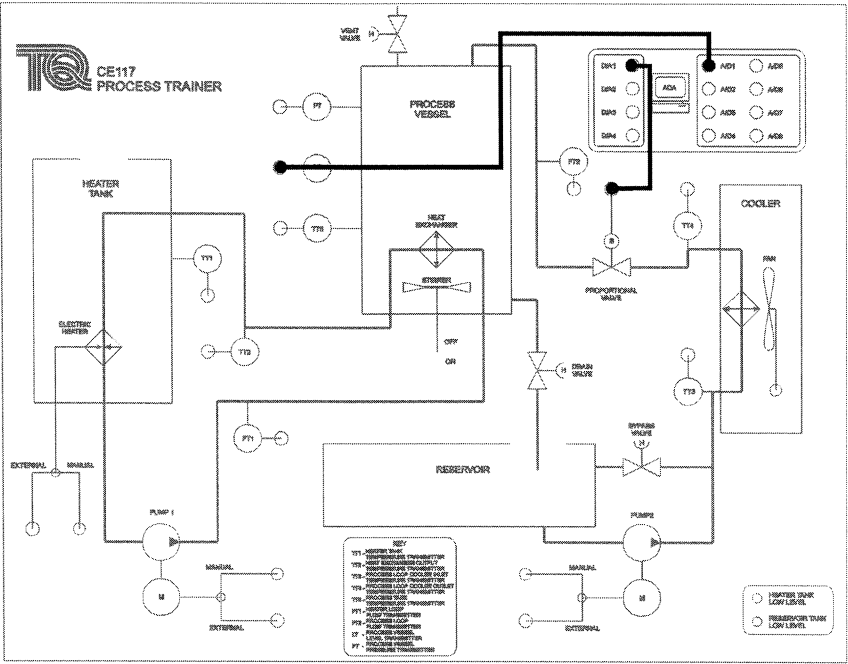

Figure 44 Connections for Experiment 1 Procedure 4
- 3) Connect the CE117 Mimic Panel as shown in Figure 44. Analogue signals will pass from the ADA section to the valve and from level transmitter LT. The software will display the level rise in the process vessel.